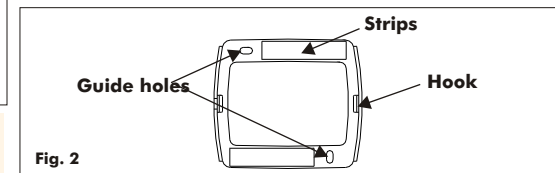

Fig. 2
For the wall fixing, locate a plane position not metallic. Place on the back side of the transmitter, inside the 2 rectangular areas, the 2 strips supplied (Fig. 2), remove the protection films and fix the transmitter .
- 1) Remove the cover with the electronic card by using a screw-driver and acting on the side slot (Fig. 2).